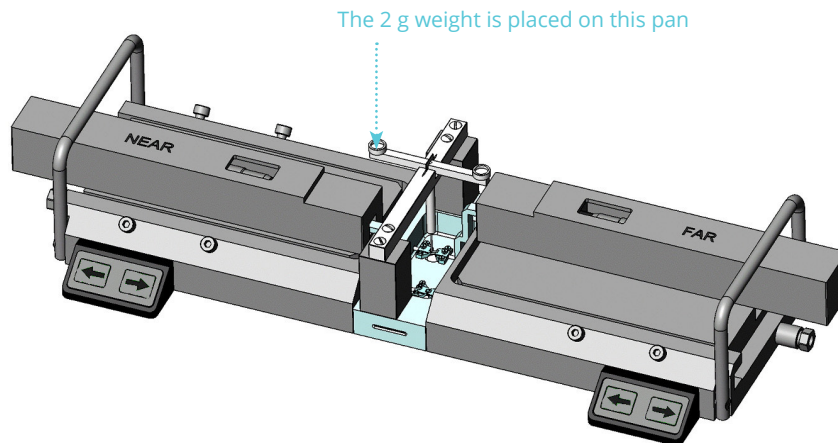

Figure 3.1 Force calibration set-up - showing placement of the calibration bridge and T-balance for Auto Dual Wire Myograph - 520A
- Place the calibration bridge and T-balance on the Wire Myograph (see figure 3.1) allowing it to be warmed up together with the Wire Myograph. Turn on the heating in the Heat sub-menu to the appropriate temperature used during your experiments
Step 5 - At this step, place the 2 gram weight at the pan on the calibration T-balance closest to the transducer (over the transducer) see figure 3.1, to simulate the stretch created by the contraction of a mounted ring preparation.